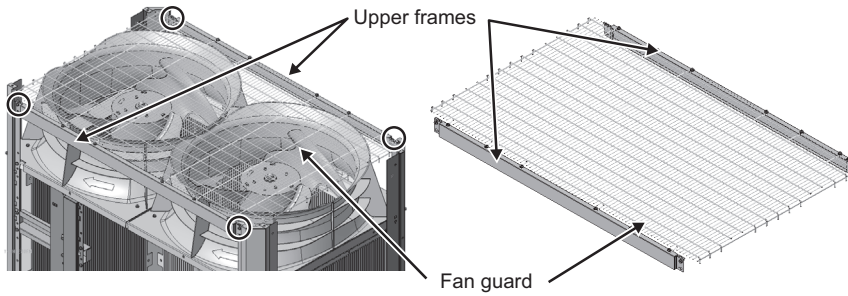

Fig. 34
- (6) Remove the fan guard and the upper frames. (Four screws: Fig. 34)